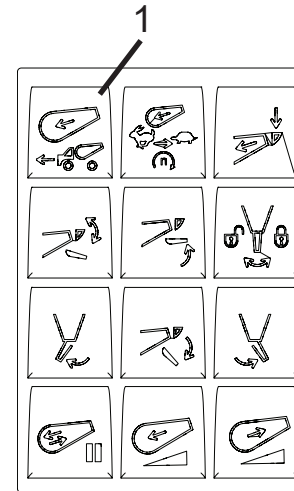

Figure 47
1. To manually engage CONSTANT SPEED mode, press the CONSTANT SPEED button on the optional in-cab keypad (Figure 47, Item 1). The button indicator will illuminate when mode is selected. All other mixer drum inputs are disabled while this mode is activated.